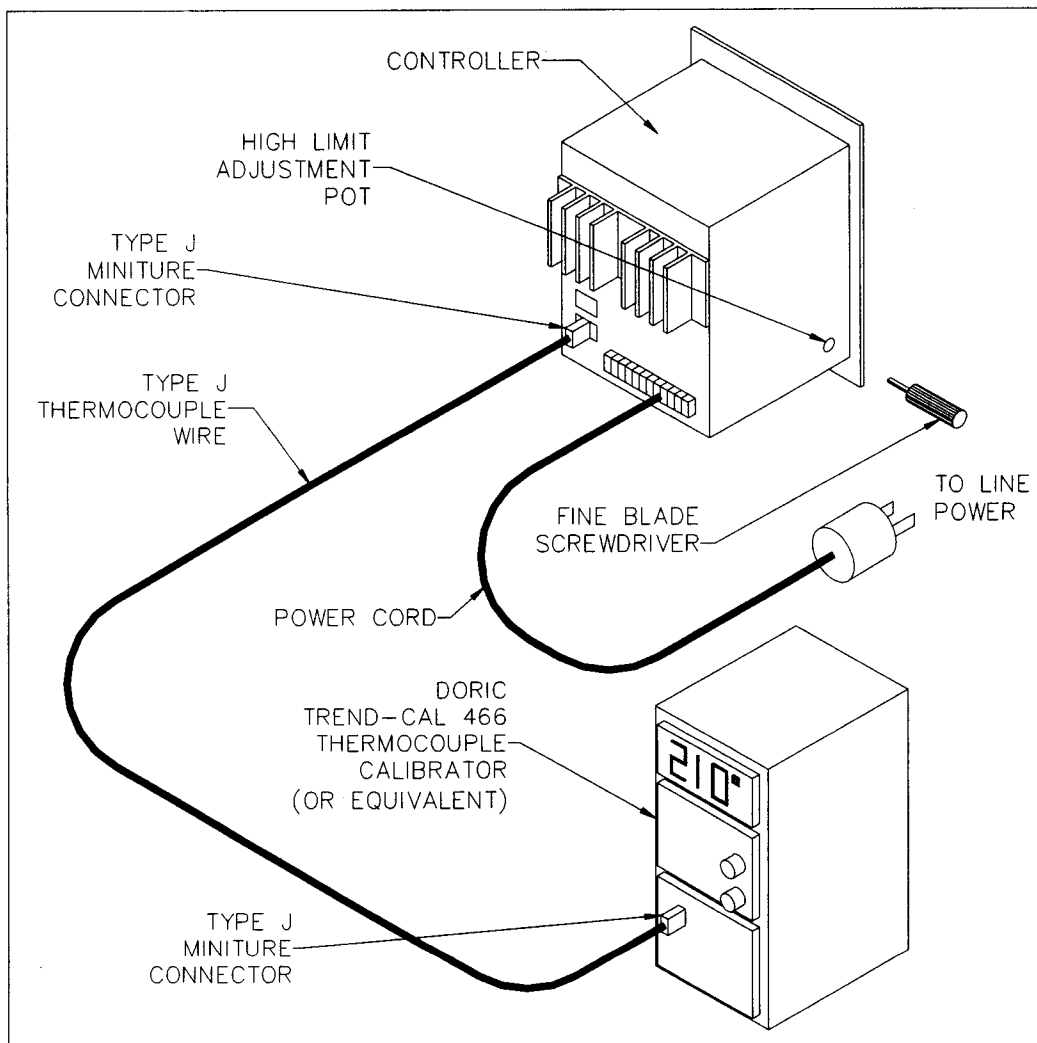

Figure 9.1 Adjusting the High Limit Setpoint
1. The adjustment of the High Limit Setpoint requires the use of a thermocouple calibration instrument such as a Doric Trend-Cal 466 or equivalent (this instrument applies the necessary signal to the PCT and displays the equivalent temperature). Connect this instrument to the MICROTEMP PCT as illustrated in Figure 9.1.